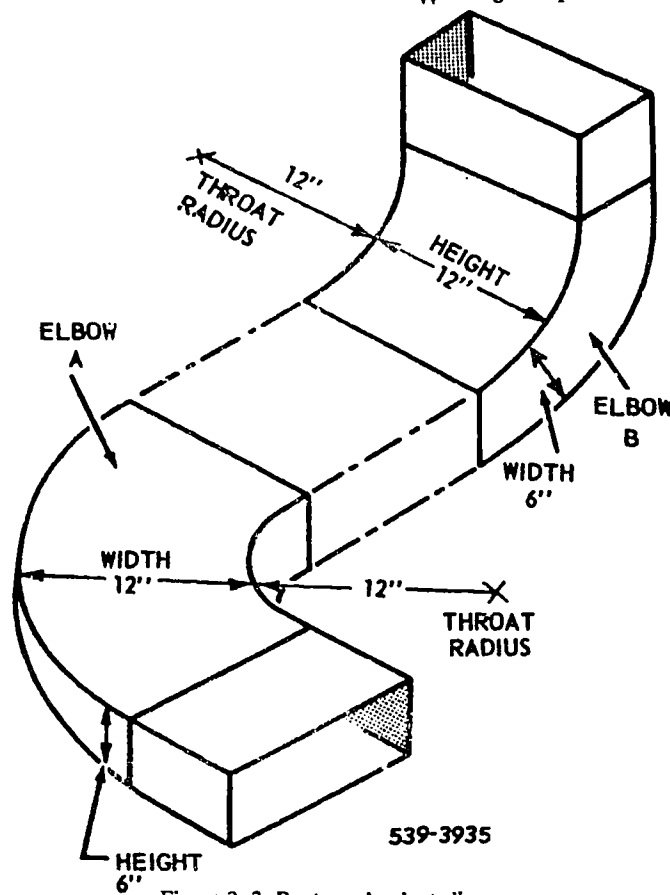

Figure 3-3. Rectangular duct elbows.
The elbows in square or rectangular ducts have a dimensioning characteristic that you must understand if you want maximum airflow. This characteristic concerns the width of the elbow, which is somewhat different from the width of the straight duct sections. Figure 3-3 illustrates two elbows in a rectangular duct. Notice that the width of elbow A is 12 inches, and the width of elbow B is 6 inches. The width of an elbow in a square or rectangular duct is always the dimension that lies in the same plane as the radius of the elbow.
Elbow A in figure 3-3 has more turbulence and the resulting pressure loss than elbow B because of the ratio between the throat radius (R) and the elbow width (W). A ratio between 1 to 1 and 2 to 1 is desirable, the latter ratio being the more desirable. The throat radius ratio is also called inside radius ratio and you find it by dividing throat radius (R) by width (W). For example, the inside radius ratio for elbow A is 1 to 1, determined by substituting the width and throat radius dimensions ( $\frac{R}{W} = \frac{12}{12} = \frac{1}{1} = 1$ ). In speaking of ratios, it is common practice to use the equivalent value, such as 1:1 = 1. Thus, a ratio of 2 to 1 is called a ratio of 2, and a ratio of 1 to 2 is called a ratio of 0.5, etc.
Elbow B in figure 3-3 has an inside radius ratio of 2, or  $\frac{12}{6} = \frac{12}{6} = \frac{2}{1} = 2$ , which is more desirable than a ratio of 1. Both elbows in the illustration have a satisfactory airflow, although elbow B has the better airflow.